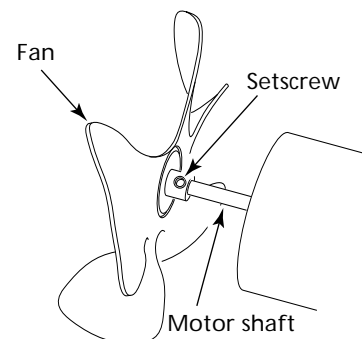

Figure 9 - Fan, Motor Shaft, and Setscrew Location
4. Replace fan on motor shaft. Make sure setscrew is touching back of flat surface on motor shaft (See Figure 9).